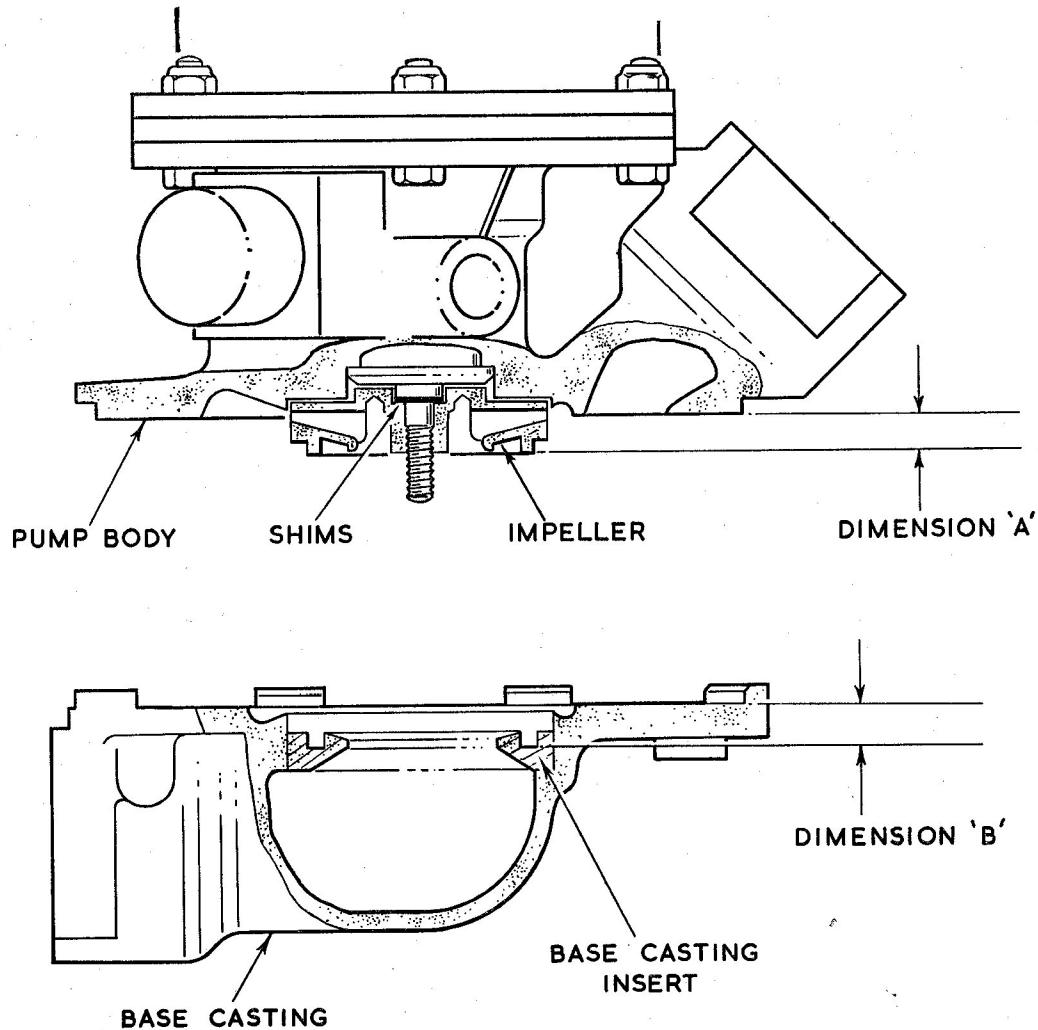

Fig. 6. Setting the impeller clearance
(2) Position the original shim(s) (26) and screw the impeller (27) on to the rotor shaft.
(3) Using a suitable spanner to hold the rotor and special spanner, SPE 23121, fully tighten the impeller.
(4) Using suitable equipment record dimensions 'A' and 'B' as shown in Fig. 6, then calculate the shimming adjustment as follows:—